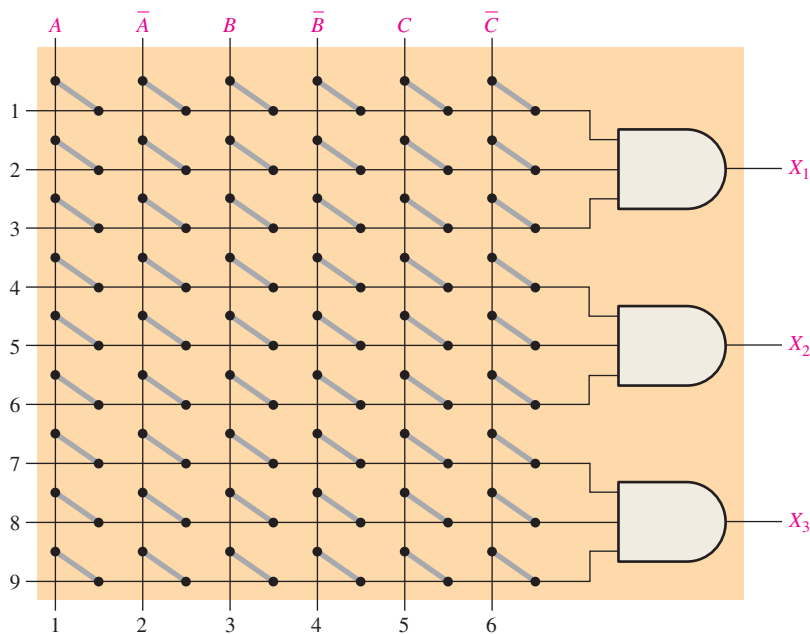

FIGURE 3-90
30. Determine by row and column number which fusible links must be blown in the programmable AND array of Figure 3-90 to implement each of the following product terms: $X_1 = \bar{A}BC$, $X_2 = ABC\bar{C}$, $X_3 = \bar{A}B\bar{C}$.